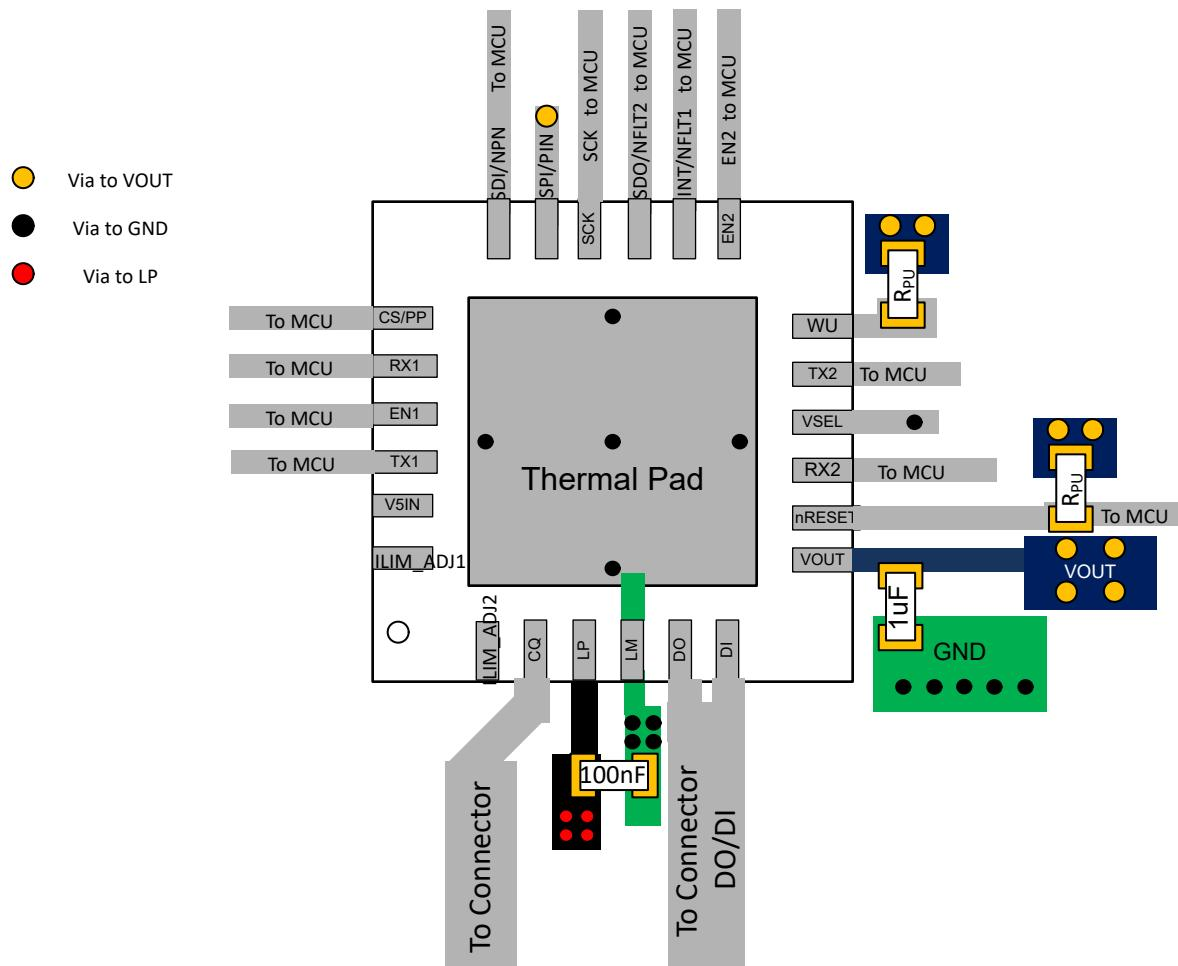

Figure 9-8. QFN Layout Example (SPI mode shown)
- Use of a 4-layer board is recommended for good heat conduction. Use layer 1 (top layer) for control signals, layer 2 as power ground layer for LM, layer 3 for the 24V supply plane (LP), and layer 4 for the regulated output supply (VOUT).
- The optimum placement of the capacitor is closest to the LP and LM terminals of the transceiver to reduce supply drops during large supply current loads. See Figure 9-8 for a PCB layout example.